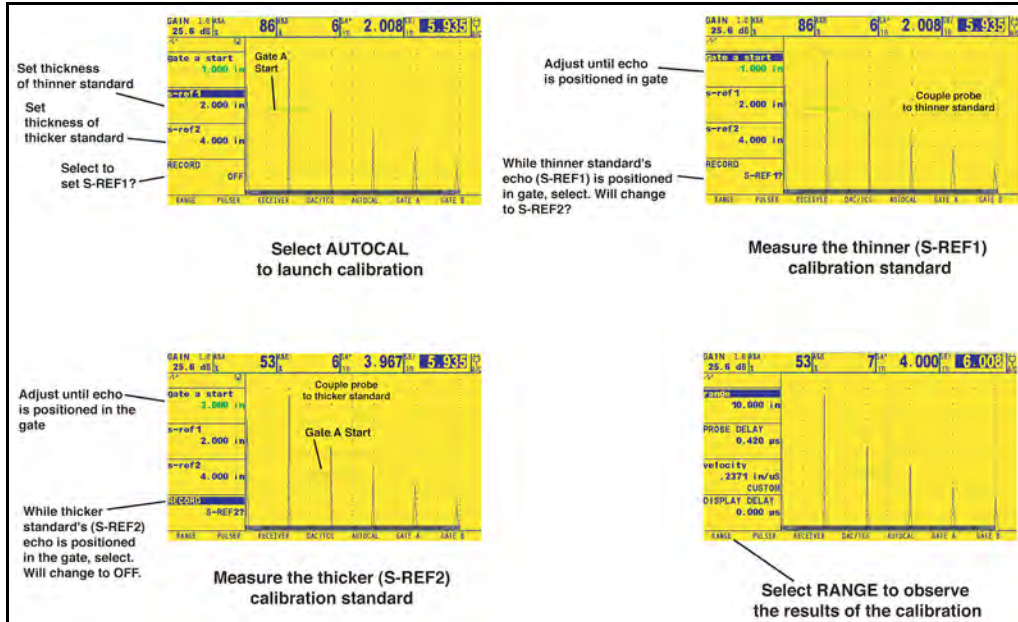

Figure 14: Auto Calibration Procedures
Note: While following the instructions in this section, refer to Figure 14 on page 56.
4. Apply couplant and couple the probe to the **thinner** calibration standard. With the A START function highlighted, press the function toggle or move the joystick () to shift the starting point of Gate A until Gate A lies over the echo corresponding to the thickness of the thinner standard (see *Figure 14 on page 56*). Coarse adjustments are made with the function toggle, while fine adjustments are made with the joystick.
6. Apply couplant and couple the probe to the *thicker* calibration standard. Then, use the joystick () to select the function titled A START. Press the function toggle or move the joystick () to shift the starting point of Gate A until Gate A lies over the echo corresponding to the thickness of the thicker standard (see *Figure 14 on page 56*). Coarse adjustments are made with the function toggle, while fine adjustments are made with the joystick.